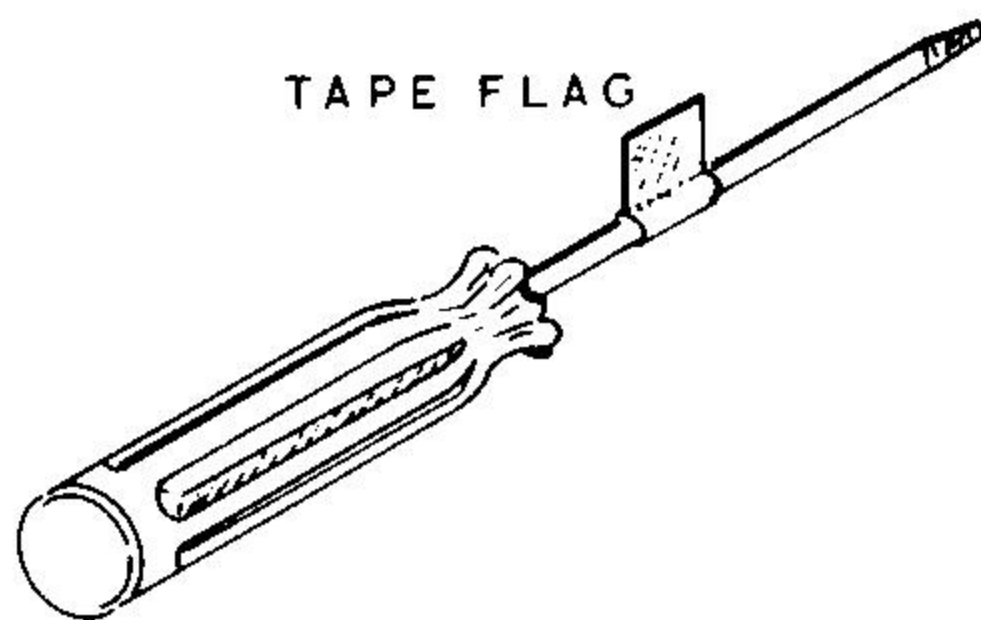

Figure 2
- () Use a piece of tape to make a "flag," as shown in Figure 2, on the blade of the screwdriver that will be used to adjust the three internal controls. This flag will help you tell how far each control is turned.